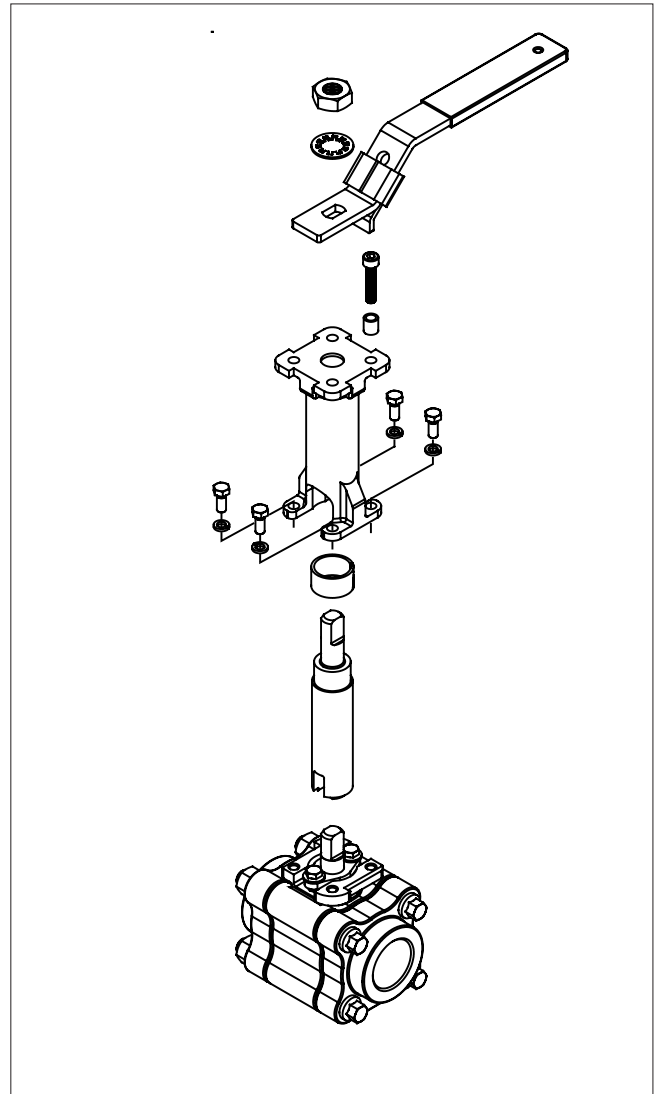

Figure 1.
5. Install the bearing on the extension shaft, as shown (in **Figure 1**), and insert the shaft, bearing end first, into the extension housing.